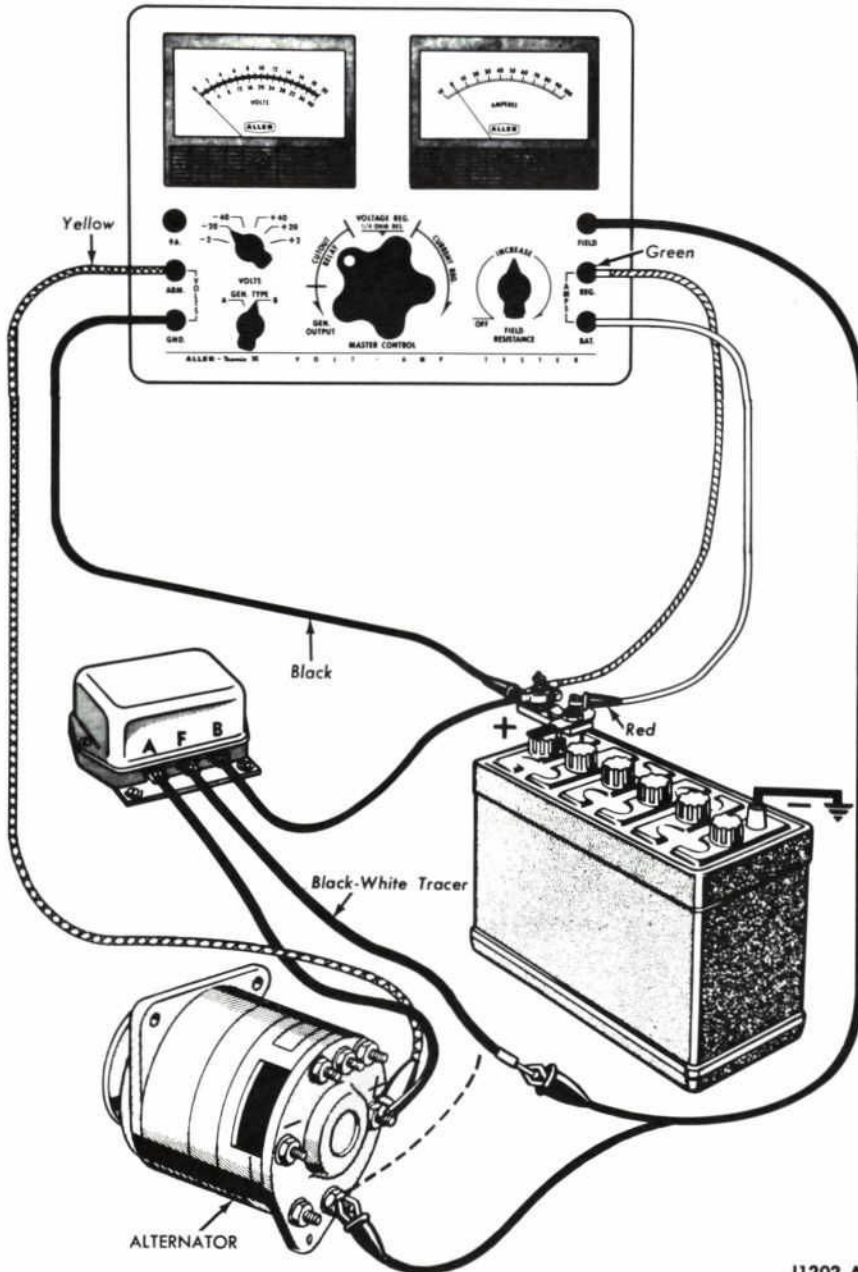

FIG. 43— Voltage Drop Test— Alternator to Battery Positive Terminal
1. Refer to Fig. 43 for test connections.